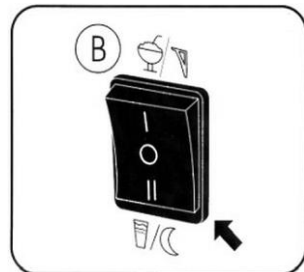

Fig. 6
1. To turn off the slush machine, press the main on/off switch (A) to the 'O' position.
2. If the product is to remain in the slushie machine overnight, the switch (B) must be set to the night position (fig. 6).